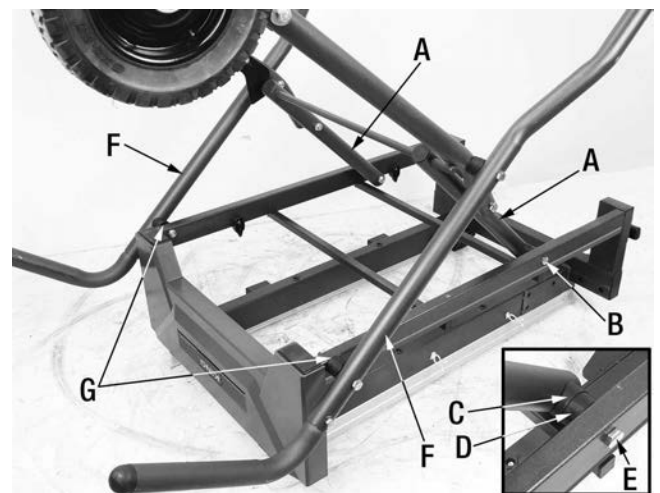

FIGURE 6
- 1) Position the machine frame upside down on a clean and level surface as shown in Fig.6.
- 2) Assemble the U support (A) Fig.6 to the mounting holes (B) in the bottom of the frame as shown. Position a curved bushing (C) and a straight bushing (D) between the U support and the frame and secure all parts together using a hex. bolt and nylon hex. nut (E) on each side.
- 3) Assemble the long right and left supports (F) Fig.6 to the mounting holes (G) in the bottom of the frame as shown. Position a curved bushing (C) and a straight bushing (D) (against the frame) between the long right and left supports and the frame and secure all parts together using a hex. bolt and nylon hex. nut (E) on each side.